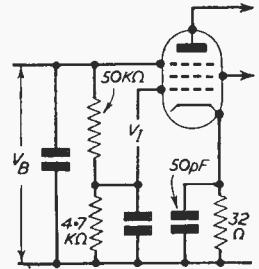
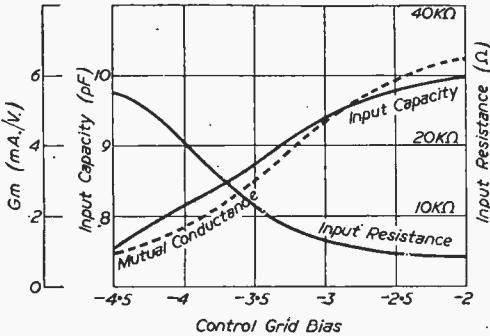

Fig. 22.—Here  $V_1$  is the input signal and  $V_B$  the A.V.C. bias.
Fig. 21.—Graph showing variation of input capacity and resistance with variations in bias.
A.V.C. is used), the change in mutual conductance (and therefore in gain) causes large variations in the input capacity and input resistance, as indicated by Fig. 21 for an EF50 at 50 Mc/s. If the bias is applied to the suppressor instead of to the control grid, the variations take place in the opposite sense, so that by feeding the bias through a suitable dividing network the input capacity and resistance will remain substantially constant. If, in addition, a partially bypassed cathode resistor is included in the circuit as shown in Fig. 22, the damping not only remains fairly constant, but is considerably reduced, as indicated in Fig. 23.